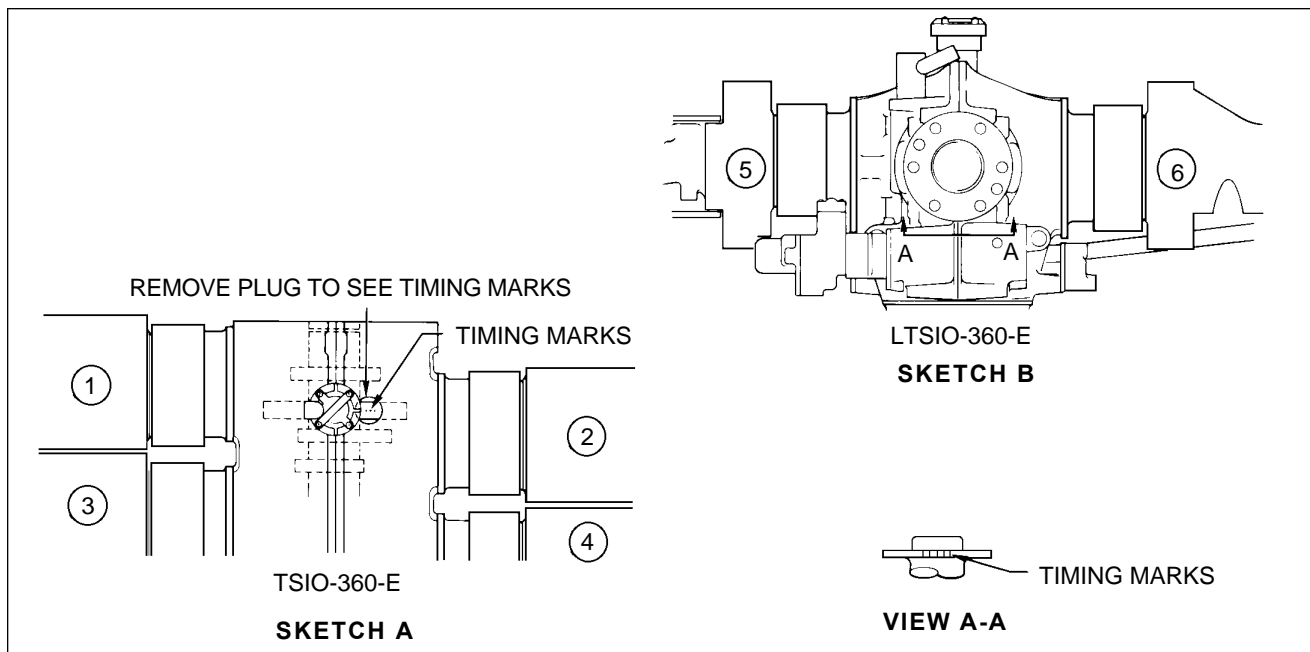

Figure 74-6. Engine Timing Marks
MAGNETO INSTALLATION AND TIMING PROCEDURE (MAGNETO TO ENGINE) (LTSIO IS COUNTER-ROTATING) (Refer to Figure 74-6.)
1. TSIO timing marks are on the outer edge of the crankshaft counterweight blade between No. 2 and No. 4 cylinders. The inspection plug between No. 2 and No. 4 cylinders on the left top side of the crankcase must be removed to view the marks on the crankshaft. (Refer to Sketch A, Figure 74-6.)
MAGNETO INSTALLATION AND TIMING PROCEDURE (MAGNETO TO ENGINE) (LTSIO IS COUNTER-ROTATING) (Refer to Figure 74-6.) (continued)
2. LTS10 timing marks are on the outer edge of the crankshaft propeller flange. (Refer to Sketch B, Figure 74-6.)